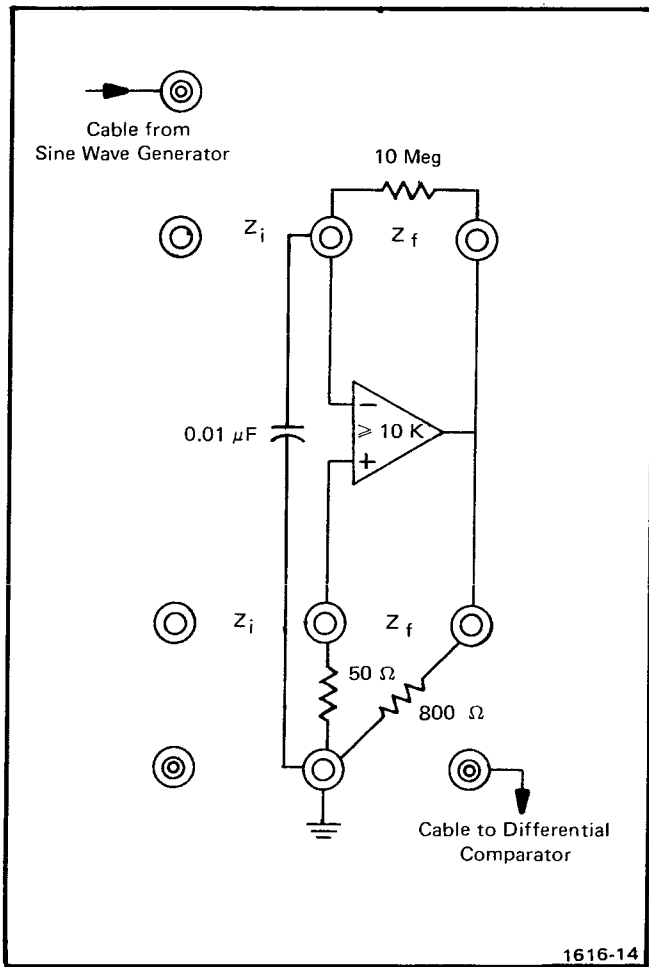

Fig. 2-5. Operational amplifier connected to check Unity Gain Bandwidth.
a. Connect the 800 Ω , 50 Ω , 10 M Ω resistors, and .01 μ F capacitor to the terminals of the AM 501 as illustrated in Fig. 2-5.